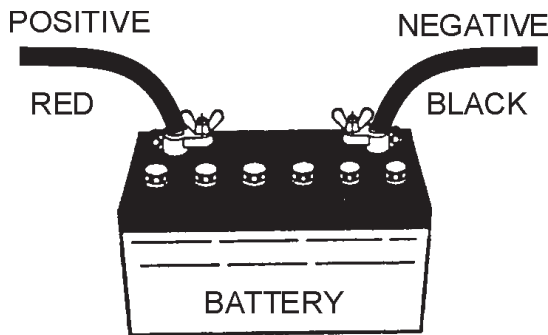

Figure 41. Battery Connections
**ALWAYS** be sure the battery cables (Figure 41) are properly connected to the battery terminals as shown below. The **RED** cable is connected to the positive terminal of the battery, and the **BLACK** cable is connected to the negative terminal of the battery.